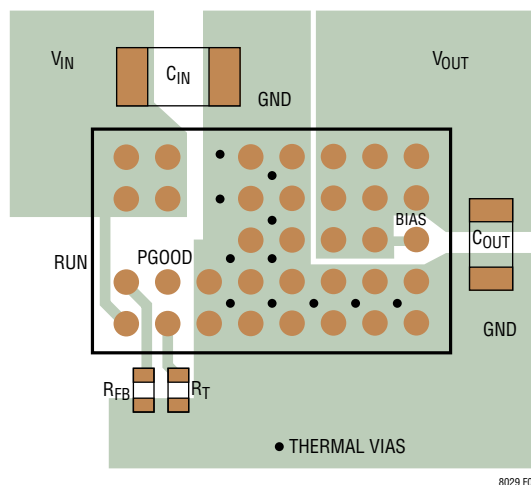

Figure 3. Layout Showing Suggested External Components, GND Plane and Thermal Vias
Most of the headaches associated with PCB layout have been alleviated or even eliminated by the high level of integration of the LTM8029. The LTM8029 is nevertheless a switching power supply, and care must be taken to minimize EMI and ensure proper operation. Even with the high level of integration, you may fail to achieve specified operation with a haphazard or poor layout. See Figure 3 for a suggested layout. Ensure that the grounding and heat sinking are acceptable.
6. For good heat sinking, use vias to connect the GND copper area to the board's internal ground planes. Liberally distribute these GND vias to provide both a good ground connection and thermal path to the internal planes of the printed circuit board. Pay attention to the location and density of the thermal vias in Figure 3. The LTM8029 can benefit from the heat sinking afforded by vias that connect to internal GND planes at these locations, due to their proximity to internal power handling components. The optimum number of thermal vias depends upon the printed circuit board design. For example, a board might use very small via holes. It should employ more thermal vias than a board that uses larger holes.